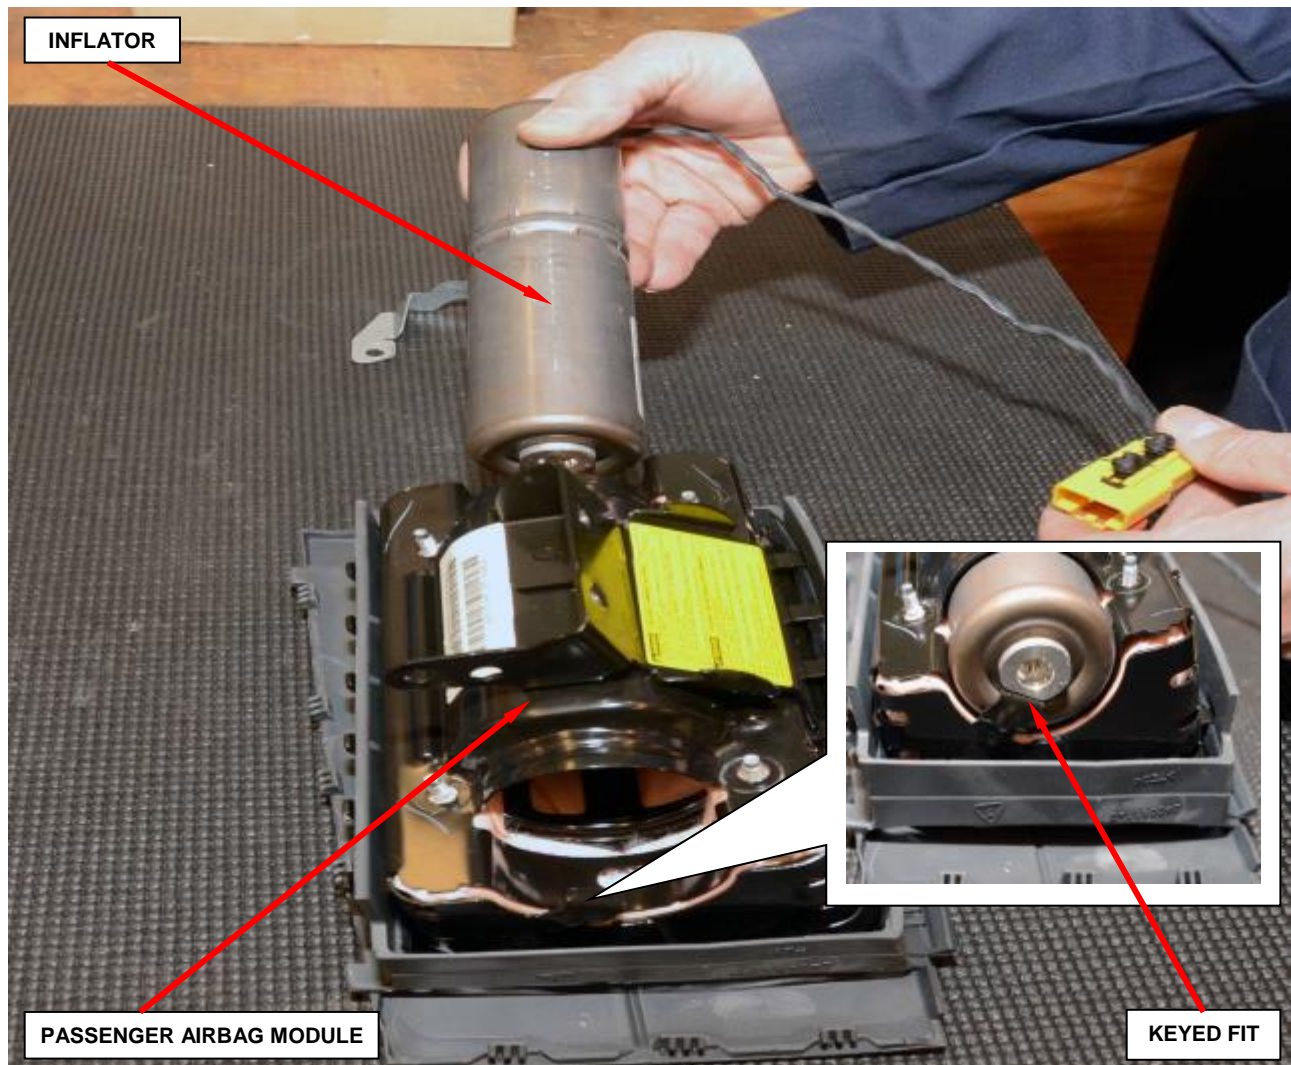

Figure 124 – Passenger Inflator Installation
- g. Slide the **new** inflator into the passenger airbag module (Figure 124).
NOTE: The inflator is keyed to fit into the housing (Figure 124).